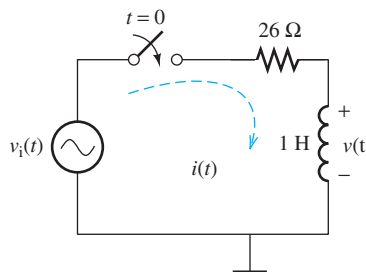

FIGURE P5.51 Circuit for Problem 5.51.
- 5.51 (A) Find $i(t)$ and $v(t)$ in the circuit shown in Figure P5.51 assuming $i_L(0^-) = 1$ A, and the input voltage $v_1(t) = 30 \cos(15t)$ V.